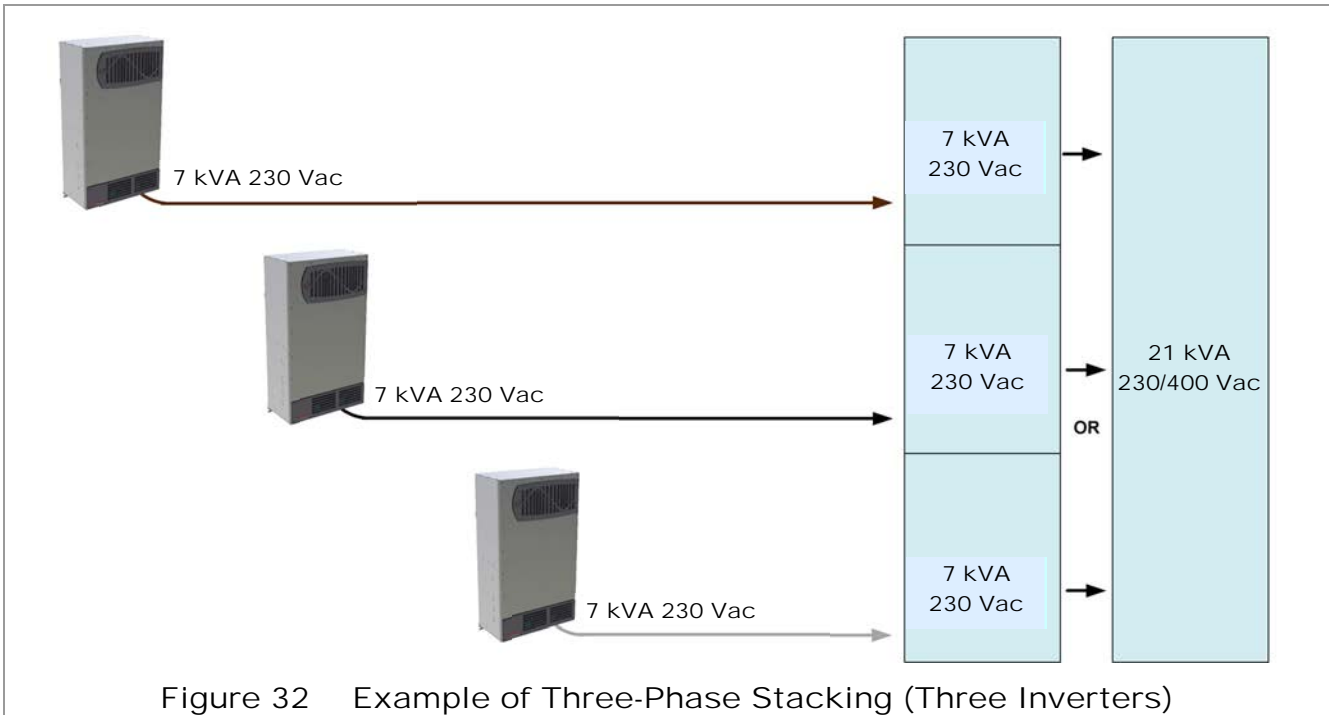
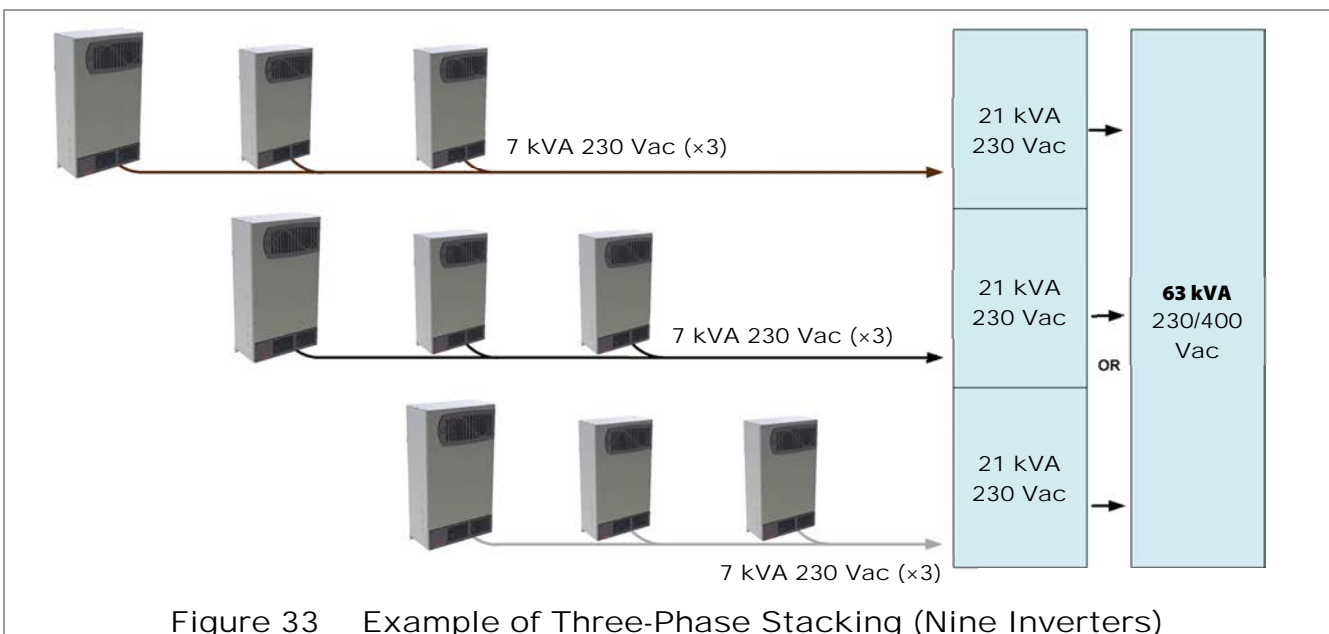

Figure 32 Example of Three-Phase Stacking (Three Inverters)
Figure 33 Example of Three-Phase Stacking (Nine Inverters)
- Up to nine inverters, three per phase, may be installed in a three-phase arrangement. Figure 32 shows three inverters, as do the figures on the following pages. Figure 33 shows nine inverters.